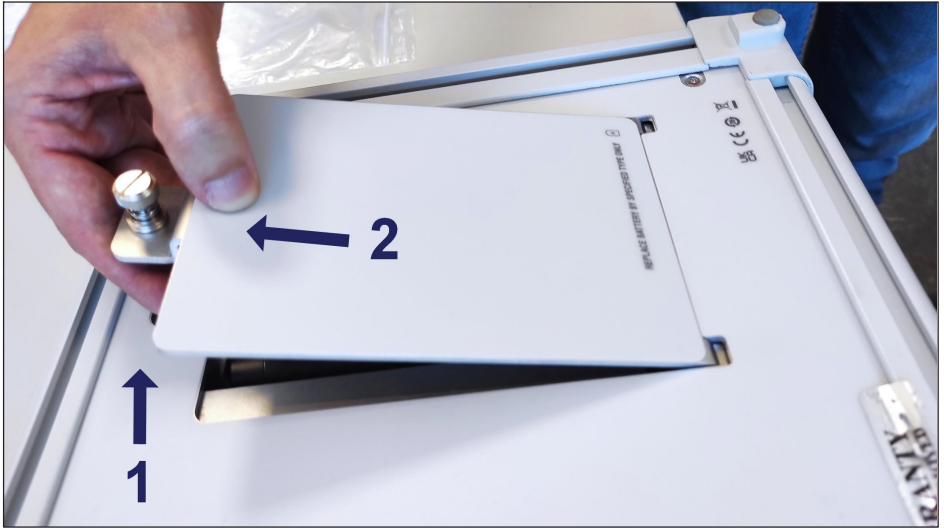

Fig. 3.8 Removing the battery cover
- ▶ Lift the cover, tilting over the bottom length as shown on number **1** in *Fig. 3.8*, and pull it out (number **2** in *Fig. 3.8*)